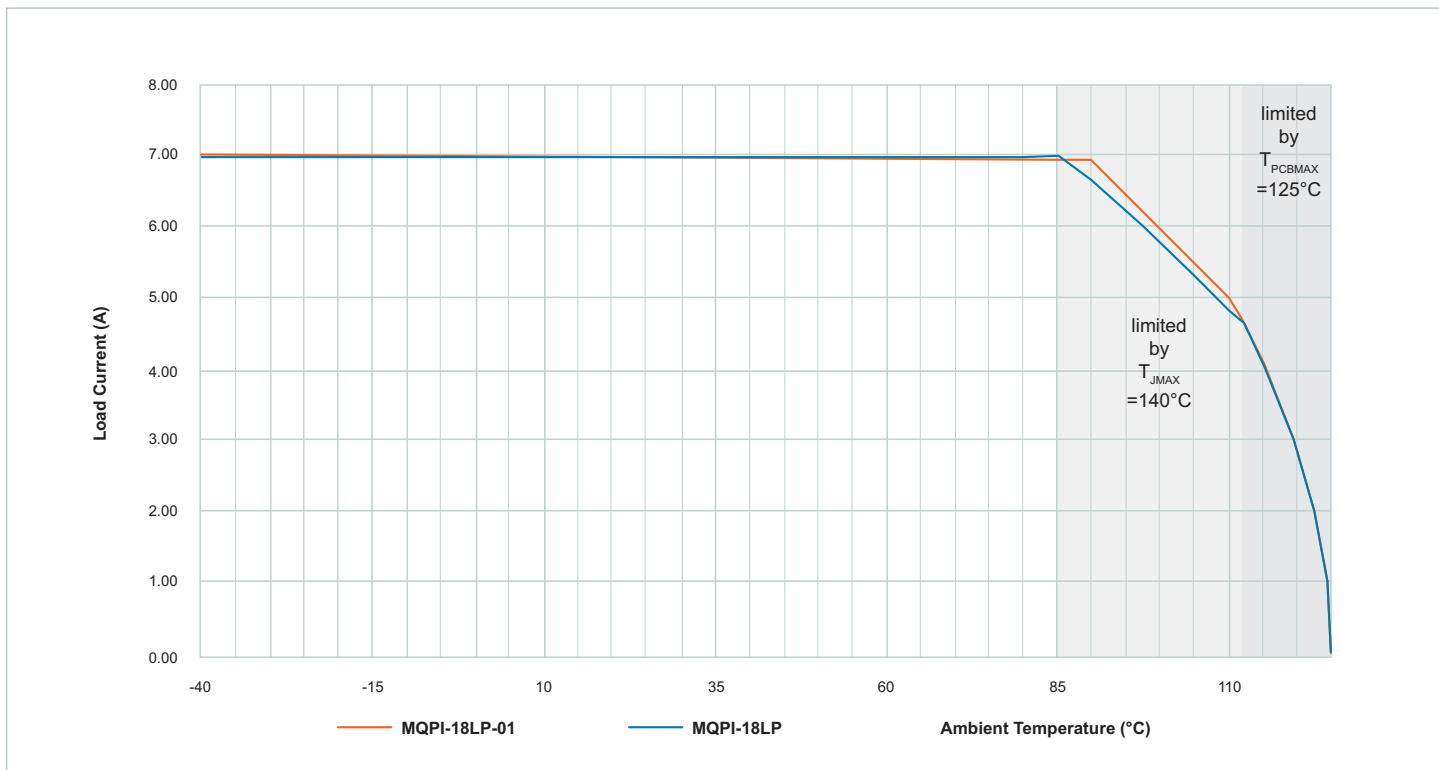

Figure 4 — Current de-rating over ambient temperature range
- -55° to +125°C PCB temperature (see Figure 4)
^[c] See Figure 4 for the current de-rating curve.
| CS114 | Bulk cable injection, radio frequency | Passed, 100% load (Figure 4) |